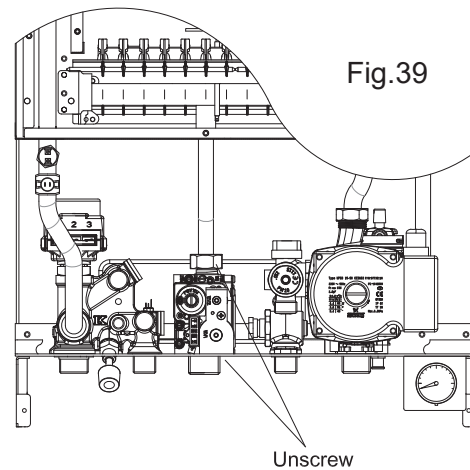

Fig.39
8.8 TO REMOVE/REPLACE GAS VALVE (Fig. 39)